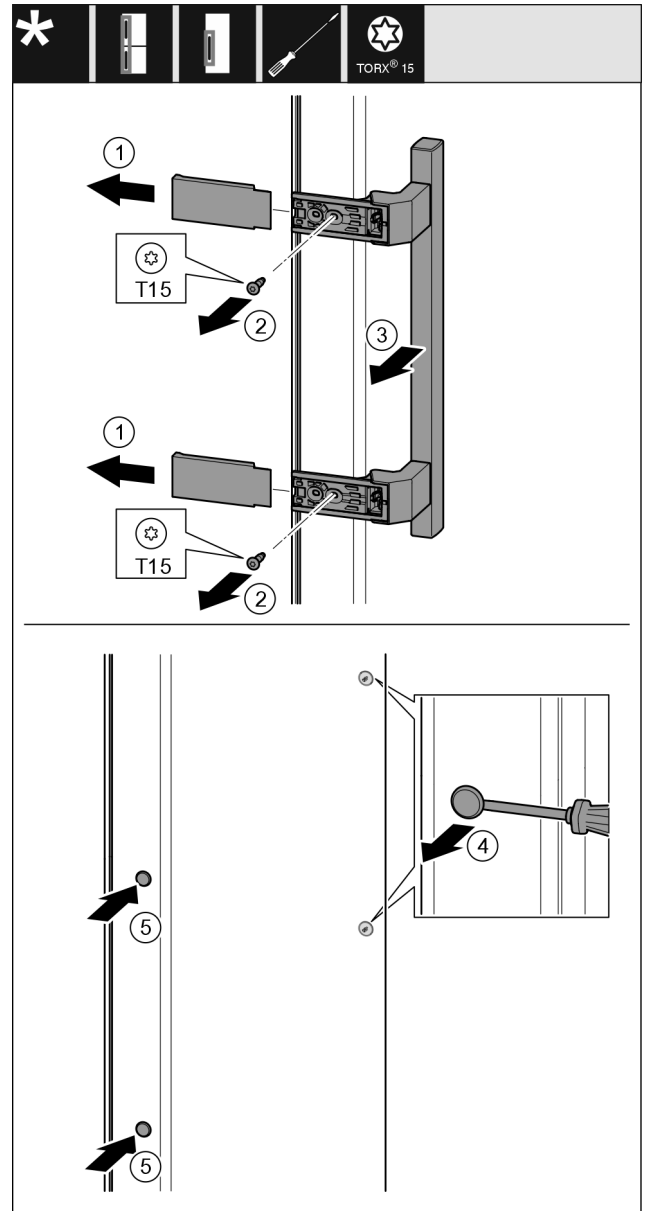

Fig. 42
- ▶ Pull off the cover Fig. 42 (1).
- ▶ Turn out the screws Fig. 42 (2) with the screw driver.
- ▶ Remove the handle Fig. 42 (3).
- ▶ Carefully lift the side plug Fig. 42 (4) with a slotted screwdriver and pull it out.
- ▶ Reinsert the plug Fig. 42 (5) on the other side.